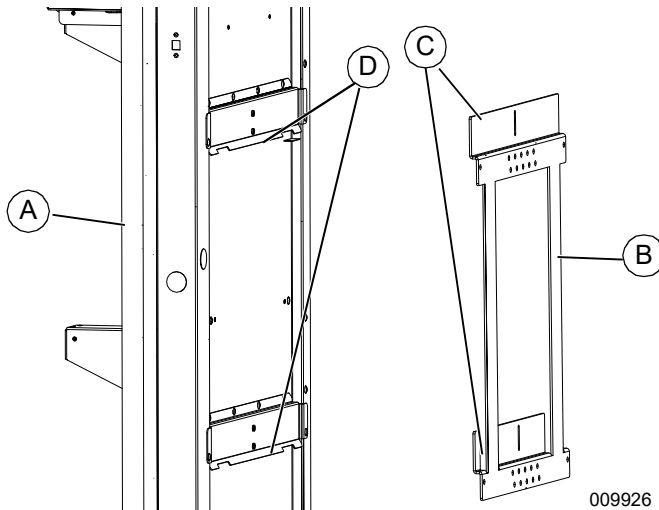

Figure 4-9. Mounting Bracket (1 of 2)
1. See **Figure 4-9**. Lift body (A) onto bracket (B). Keep body tight to the wall while lowering body onto bracket. Verify bracket tabs (C) hook into body pockets (D).